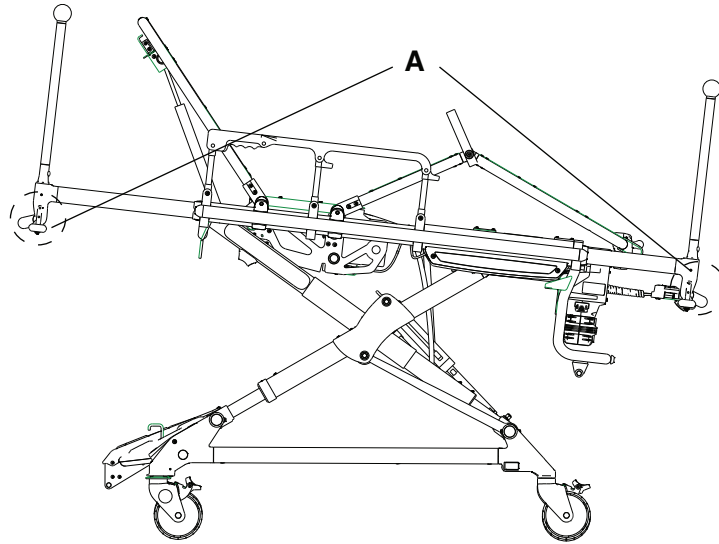

Figure 16 – Extend the head section or foot section
1. Squeeze the red release levers (A) on each side of the frame as you pull the head or foot section out of its retracted position (Figure 16).